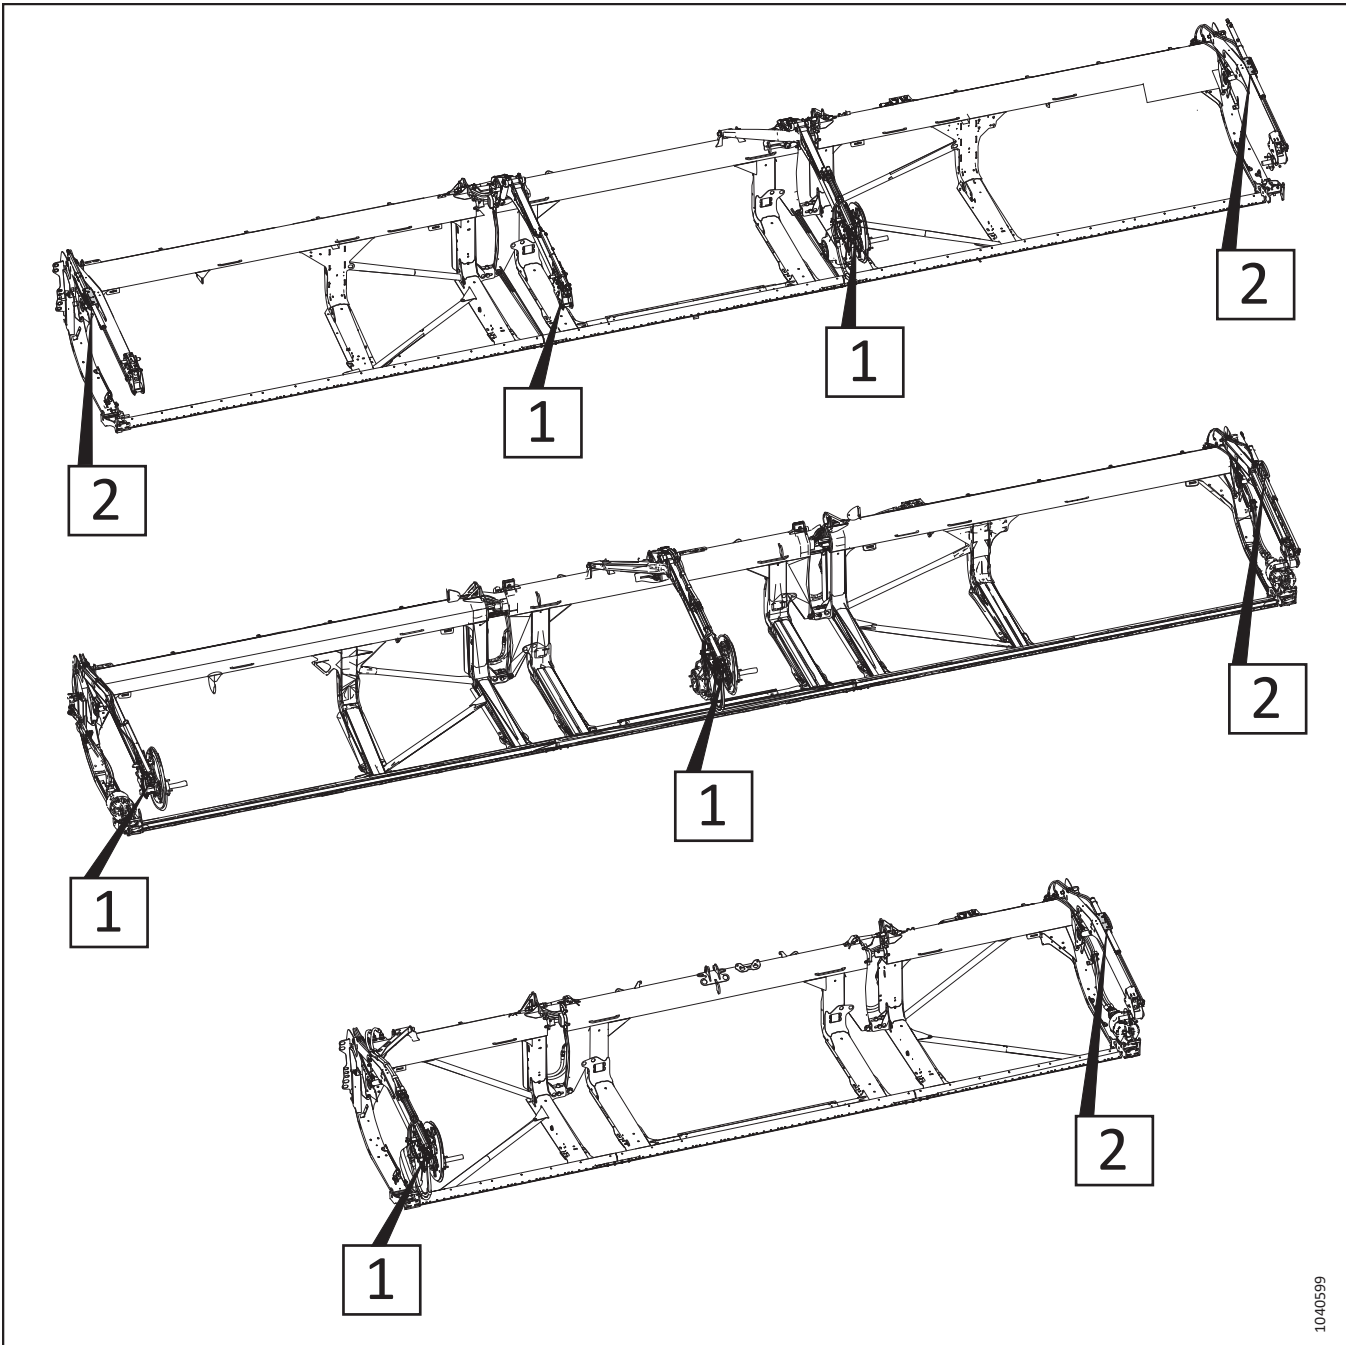

Figure 3.199: Adjustable Fore-Aft Cylinders – Procedure Reference Numbers
6. Refer to Figure 3.199, *page 172* to determine the fore-aft cylinder adjustment procedures for your header type. The number on the illustration refers to one of the following procedures: